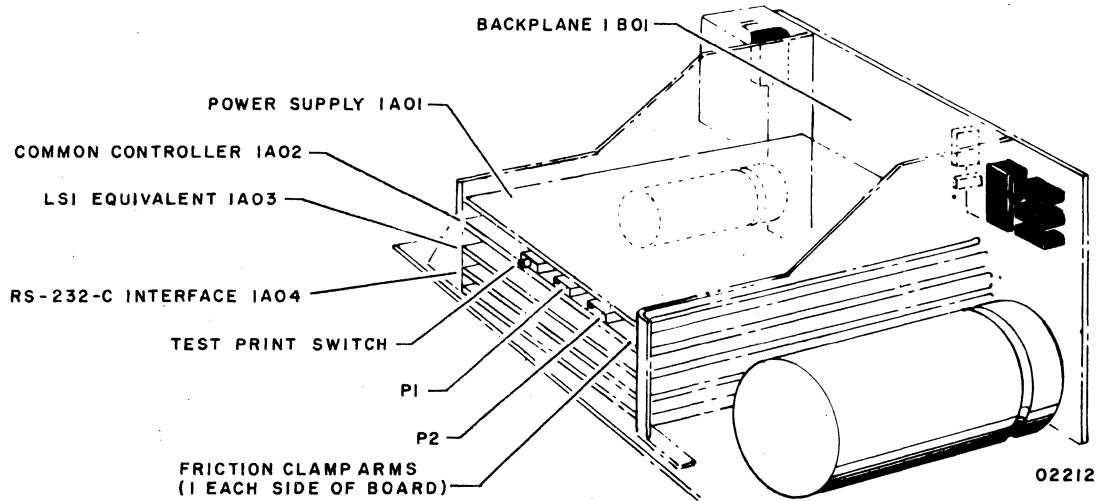

Figure IMP6. Logic Chassis Board Locations
- 3) Release friction clamp arms holding board (figure IMP6) in place.
- 7) Place board in correct location (figure IMP6) and carefully slide board in track until board touches connector sockets at back.